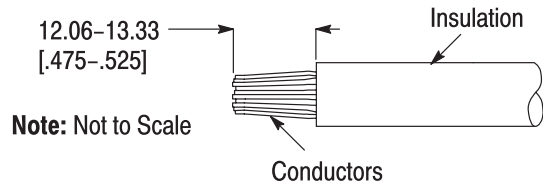

Figure 2
2. Using Cable Stripper/Slitter Tool 606700-1, strip the wire to the dimension given in Figure 2. Be careful not to nick or scrape any part of the wire.